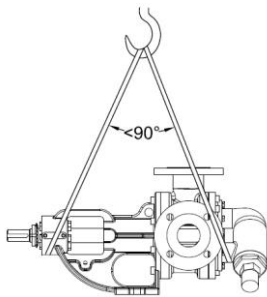
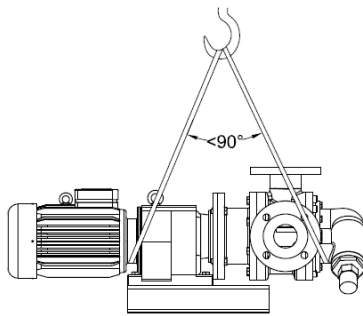
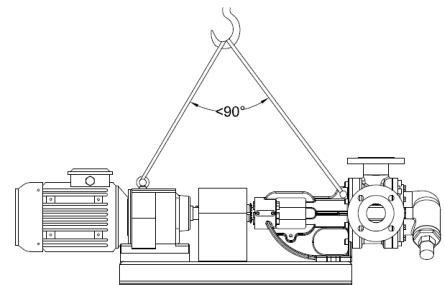

Figure 2a. Bare Shaft Ended Pump
Figure 2b. Mono-blocked Pump System on Chassis
Figure 2c. Pump System on Chassis
- To avoid any damage to pump or pump system, handling should be done as shown in **Figure 2a**, **Figure 2b** or **Figure 2c**.